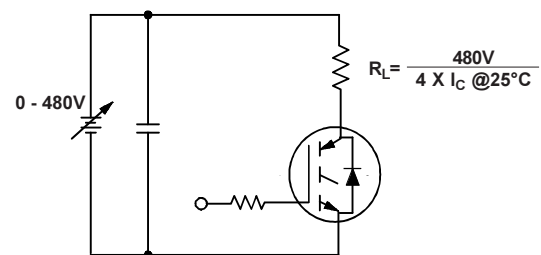

Fig. 20 - Pulsed Collector Current Test Circuit
- ① Repetitive rating: $V_{GE}=20V$; pulse width limited by maximum junction temperature (figure 20).